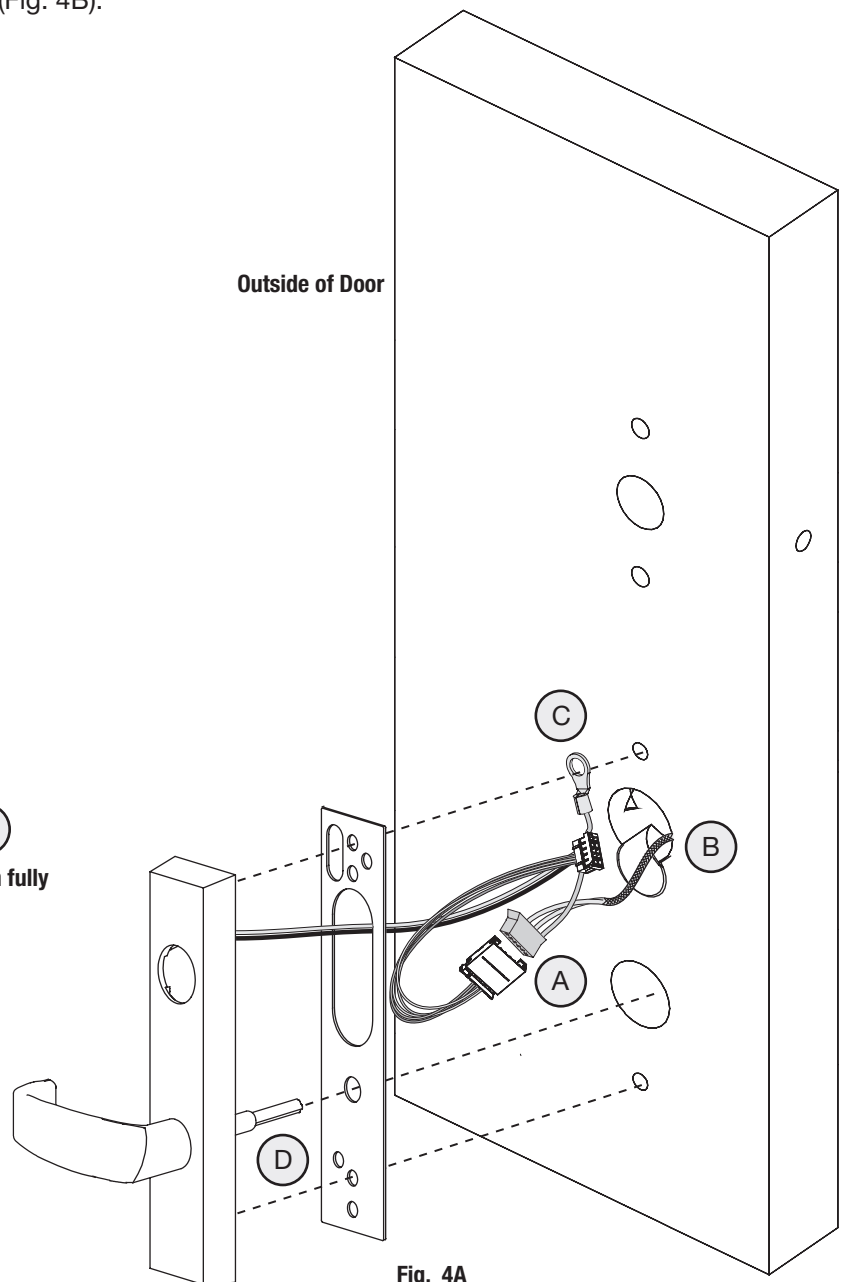

Fig. 4A
- A. Connect motor harness adapter to chassis harness connector (Fig. 4A).